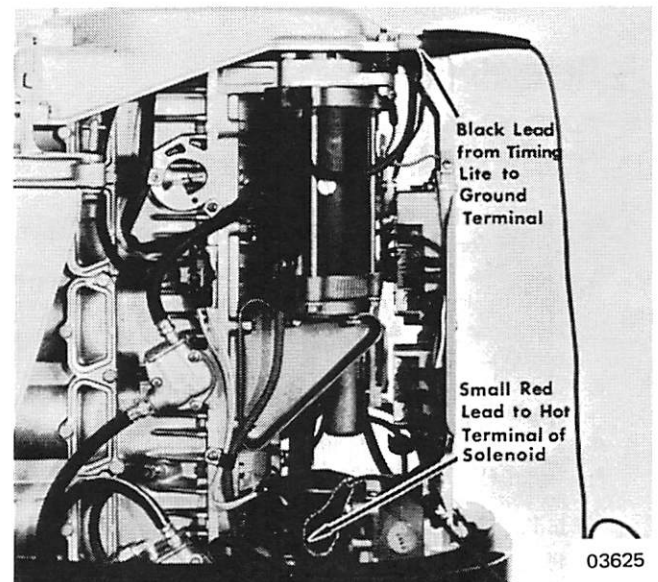

Figure 4. Black Lead Connected to Ground Terminal
- a. Place Timing Lead (C-91-39212) on No. 1 spark plug. Connect large red lead to timing lead and connect black lead to ground terminal on bottom cowl or front cover plate (Figure 4) and red lead to hot side of starter solenoid.